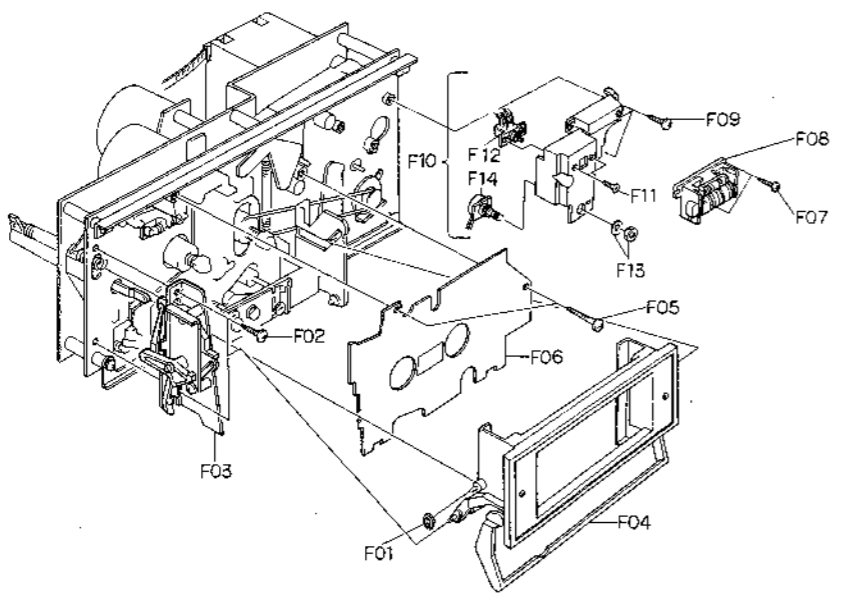

Fig. 2.6
Refer to Fig. 2.6.
- (1) Refer to Fig. 2.6. Remove Cassette Case Ass'y referring to item 2.22.
- (2) Remove F01, then disassemble F02 (Head Mount Base Ass'y).